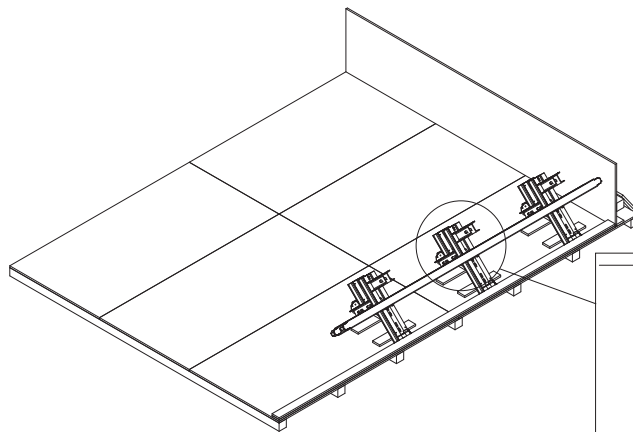

Fig. A3.02
2. Position the first girder, hold in position by means of screw clamps and secure on the fixing plate using hex. wood screws M8 x 60. (Fig. A3.02)